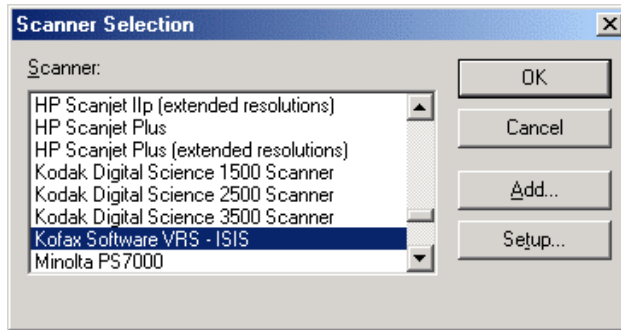

Figure 49. Select the Scan Source in Pix View
- 6 Select the Kofax scan source as shown in Figure 49: